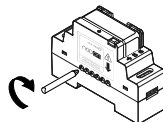

figure 2
- 4 Screw the 6 screws of the relay switch to fix both elements together (see figure 2).